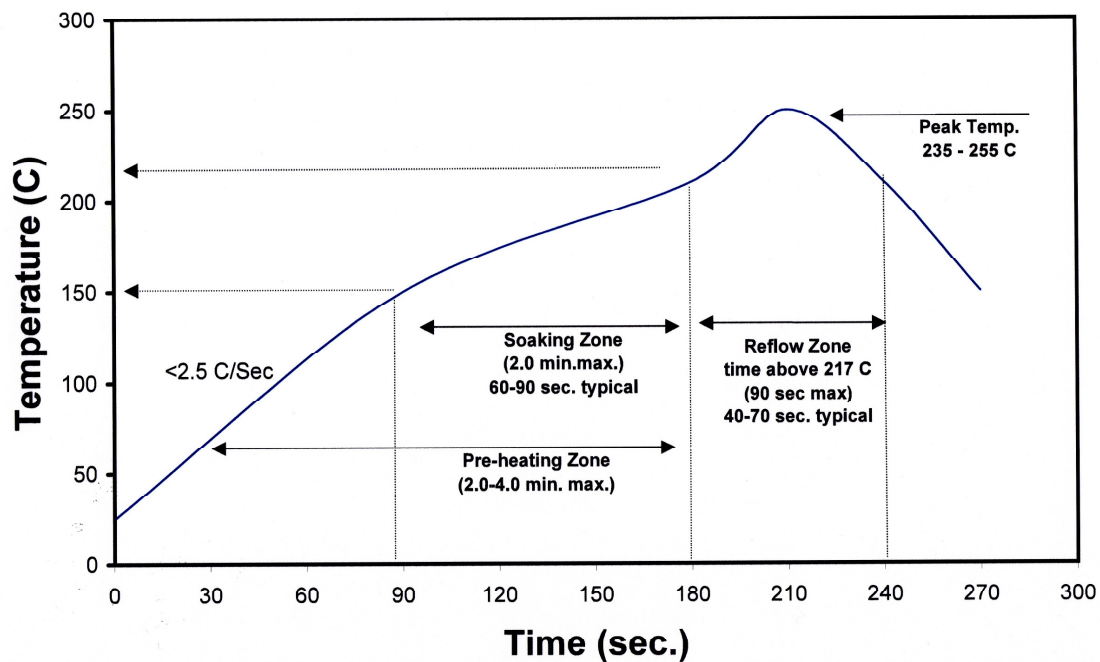

Figure 5: Reflow soldering profile for lead free soldering.
- Solder conditions per JEDEC 020D. See Reflow Soldering Profile Figure 5.